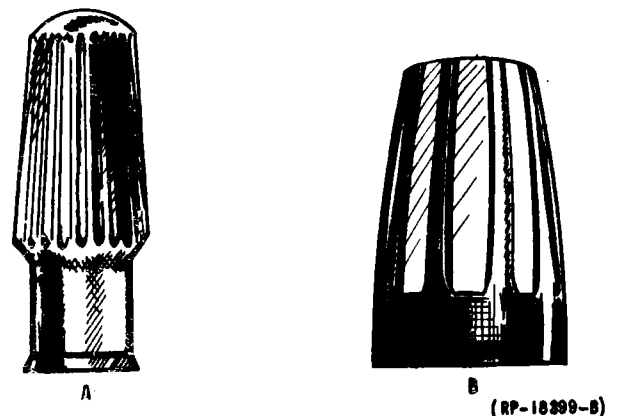

FIG. 1 SMALL WIRE CONNECTORS (WIRE NUTS)
4.11 Table "A" shows the various numbers of stranded or solid wires and combinations that can be connected by the Bryant or Ideal R-3045 and R-3046 wire connectors. These connectors can be recognized by their hard bakelite body. See Figure 1(B).
4.12 Table "B" indicates all combinations of wire sizes that can be joined with the 3M R-3045 wire connector. This connector may be identified by a soft PVC outer covering. See Figure 1(A).